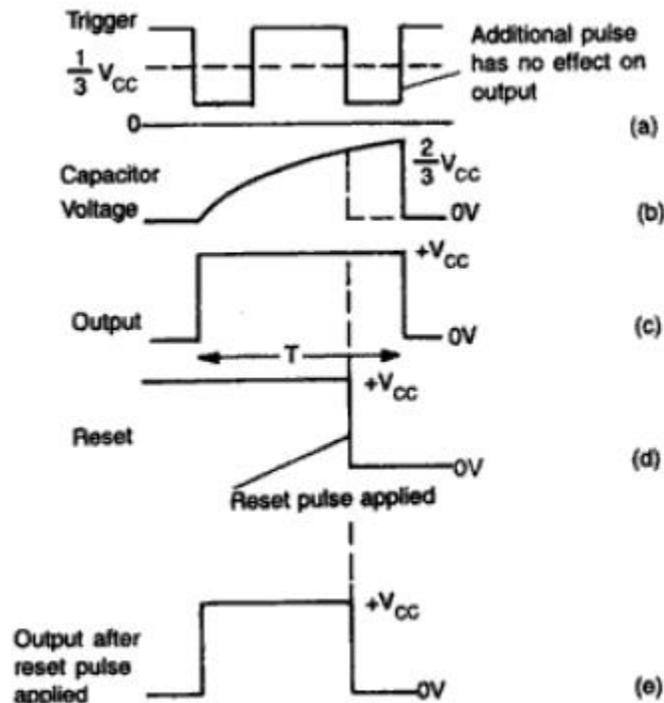

Figure 5: Timing pulses
- Since C is unclamped, voltage across it rises exponentially through R towards V_{CC} with a time constant RC as in Fig. 5(b).
- The output returns to the standby state or ground potential as shown in Fig. 5(c).
→ The voltage across the capacitor as in Fig. 5(b) is given by
- It is evident from Eq. (2) that the timing interval is independent of the supply voltage.
- However, if a negative going reset pulse as in Fig. 5(d) is applied to the reset terminal (pin – 4) during the timing cycle, transistor Q_2 goes OFF, Q_1 becomes ON and the external timing capacitor C is immediately discharged.
- The output now will be as in Fig. 5(e). It may be seen that the output of Q_2 is connected directly to the input of Q_1 so as to turn ON Q_1 immediately and thereby avoid the propagation delay through the FF.